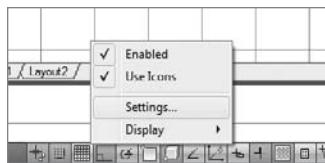

FIGURE 3.7 Displaying the Drafting Settings dialog box
4. To open the Drafting Settings dialog box, right-click on the Grid Display button and then choose Settings from the context menu that appears (see Figure 3.7).